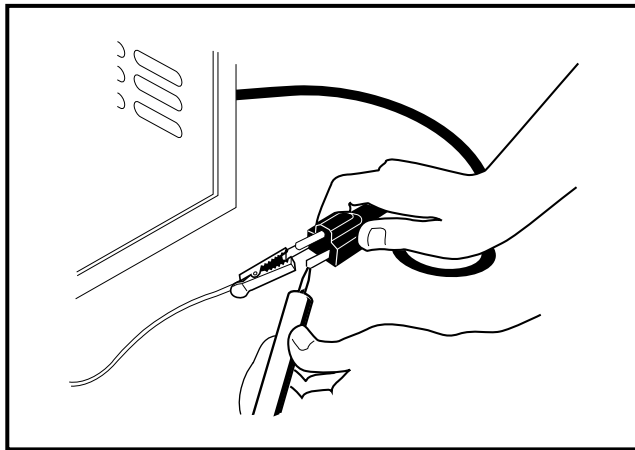

Figure 14-8 Test AC Plug Blades
- 5.3. With relay bypassed, check the circuit across the AC cord plug blades (**Figure 14-8, Page 14-9**).